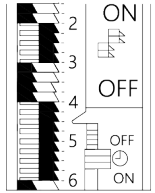

Figure 1.
1. Setting the ON/OFF Time (Fig 1):
Positioning the incremental time setting toggles to the right will trigger an ON time. Conversely, positioning the time setting toggles to the left will trigger an OFF time. In Figure 1 example, the timer is set to switch on at 2:00, and off at 3:00. It will turn back on at 4:00 and off again at 6:00. The current time is 4:30.